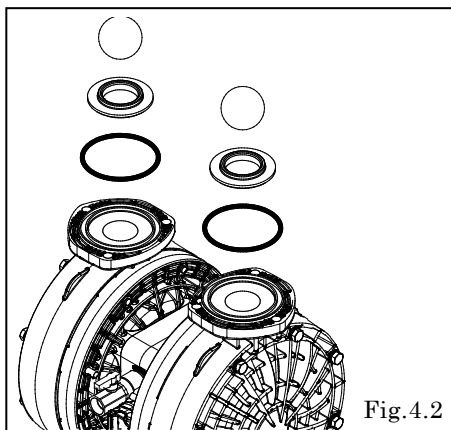

Fig.4.2
- Remove the ball, valve seat and O ring. [Fig.4.2]